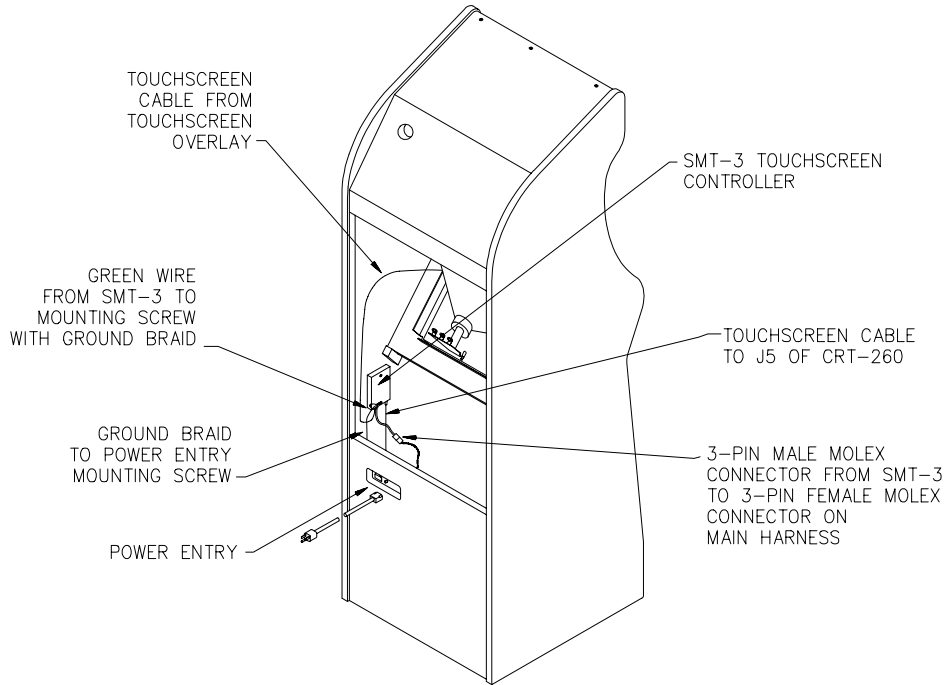

Figure 3 - Location of SMT-3 13" Cabaret
- Install the new controller on the inside wall of the cabinet, as shown in Figures 3 and 4, approximately 20-22" above the power entry.